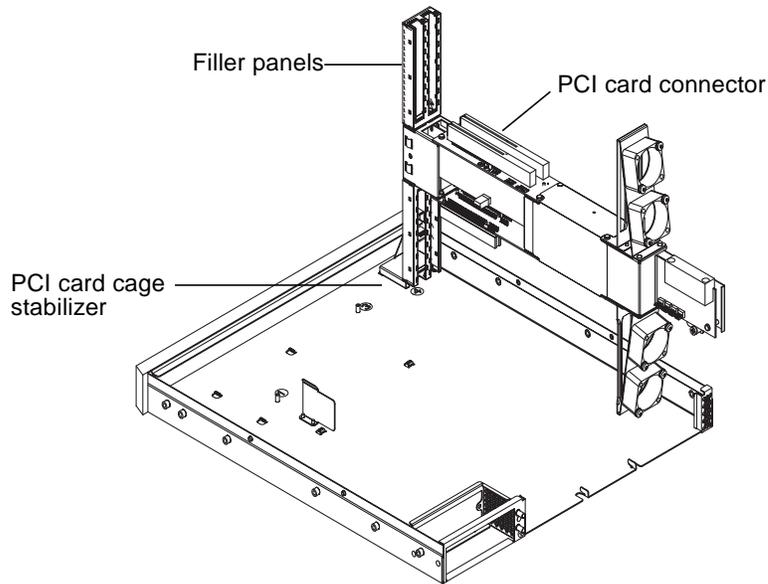

FIGURE 2-4 PCI Card Cage on the PCI Card Cage Stabilizer
1. Rotate the PCI card cage assembly so that a PCI card slot can slide under the lip of the PCI card cage stabilizer, as shown in FIGURE 2-4.